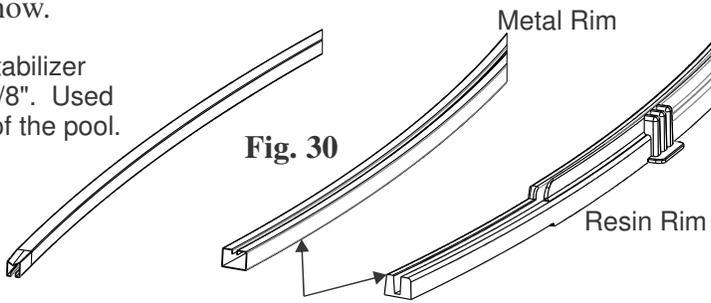

Fig. 30
*** IMPORTANT: Make sure you are using the bottom rails and not the inner stabilizer bars. The bottom rails on some pool models are made of resin and not metal (see Fig. 31 and Fig. 32). The stabilizer bars are always metal and they have male and female end. The bottom rails are the larger width rails that have the straight cuts on both ends. The bottom rails do not interlock (see Fig. 30).**